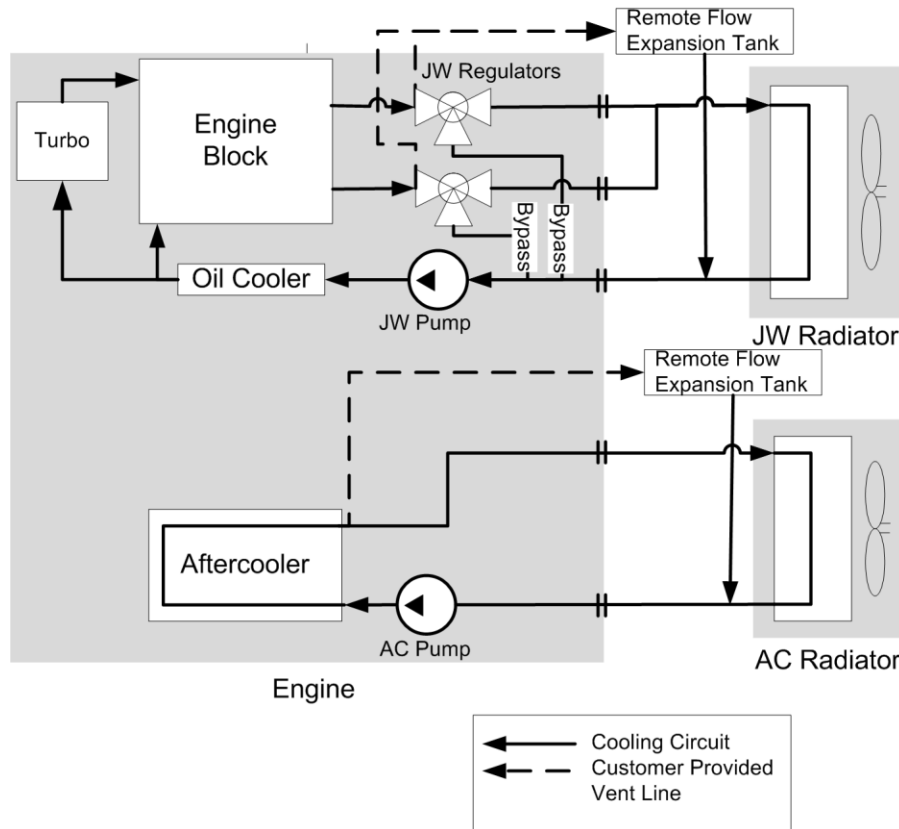

Figure 39: G3400/CG137 TA V-block cooling system schematic.
- G3400/CG137 TA V-block, (Figure 39 on Page 54).